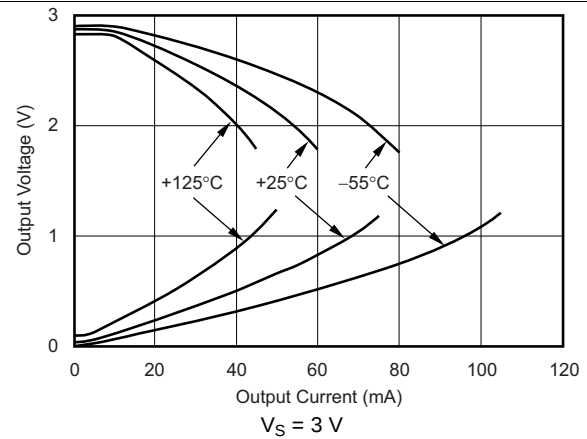
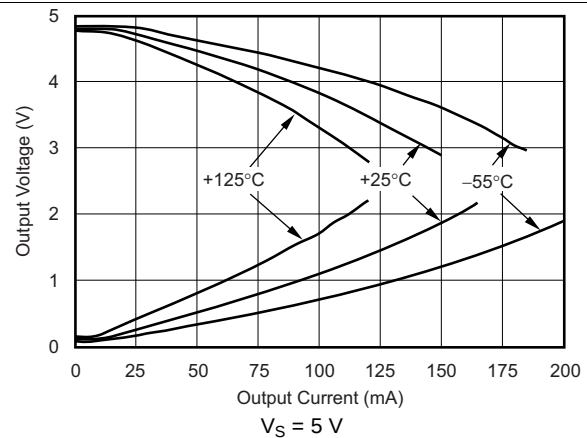

图 20. Output Voltage Swing vs Output Current
图 22. Output Voltage Swing vs Output Current
(1) See typical characteristic curves, *Output Voltage Swing vs Output Current* (Fig. 20 and Fig. 22).
(2) Specified by design.
A class AB output stage with common-source transistors achieves rail-to-rail output. For high-impedance loads ($> 200 \Omega$), the output voltage swing is typically 100 mV from the supply rails. With 10- Ω loads, a useful output swing is achieved while maintaining high open-loop gain. See the typical characteristic curves, Output Voltage Swing vs Output Current (Figure 20 and Figure 22).
The OPAx354 output stage supplies a continuous output current of ± 100 mA and yet provide approximately 2.7 V of output swing on a 5-V supply, as shown in Figure 30. For maximum reliability, TI does not recommend running a continuous DC current in excess of ± 100 mA. See the typical characteristic curves, Output Voltage Swing vs Output Current (Figure 20 and Figure 22). For supplying continuous output currents greater than ± 100 mA, the OPAx354 may be operated in parallel, as shown in Figure 31.